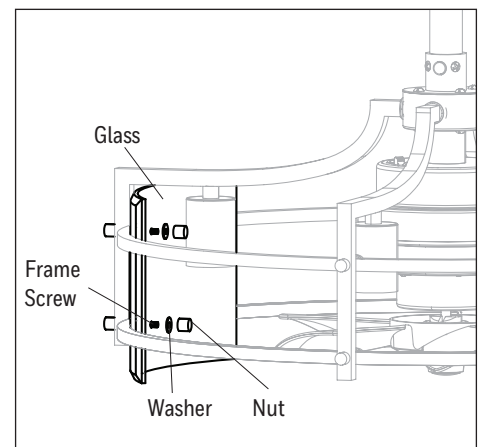

Figure 2.3
3. Remove nut and washer. Install glass over frame screw. Reinstall washer and nut to secure glass (Figure 2.3).